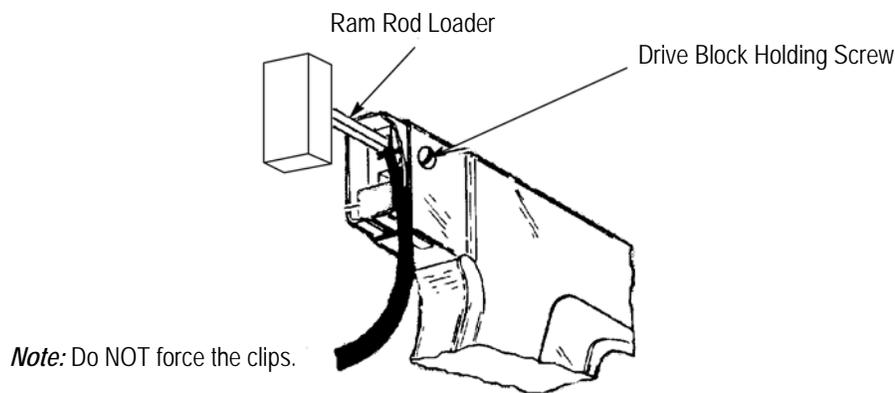

Figure 5
3. Use the ram rod loader, attached to the cap on the end of the tool, to push the strip into the clip feed slot until the strip is visible in the hole in the side of the tool. **DO NOT FORCE CLIPS.** See Figure 5.